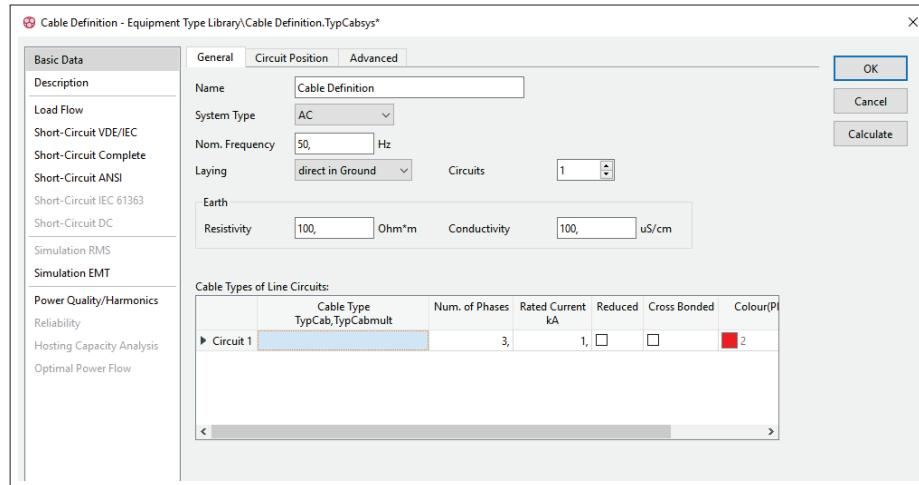

Figure 11.3.8: Cable Definition Type (*TypCabsys*)
3. On the basic data page of the dialog of the tower type, shown in figure 11.3.8, the number of